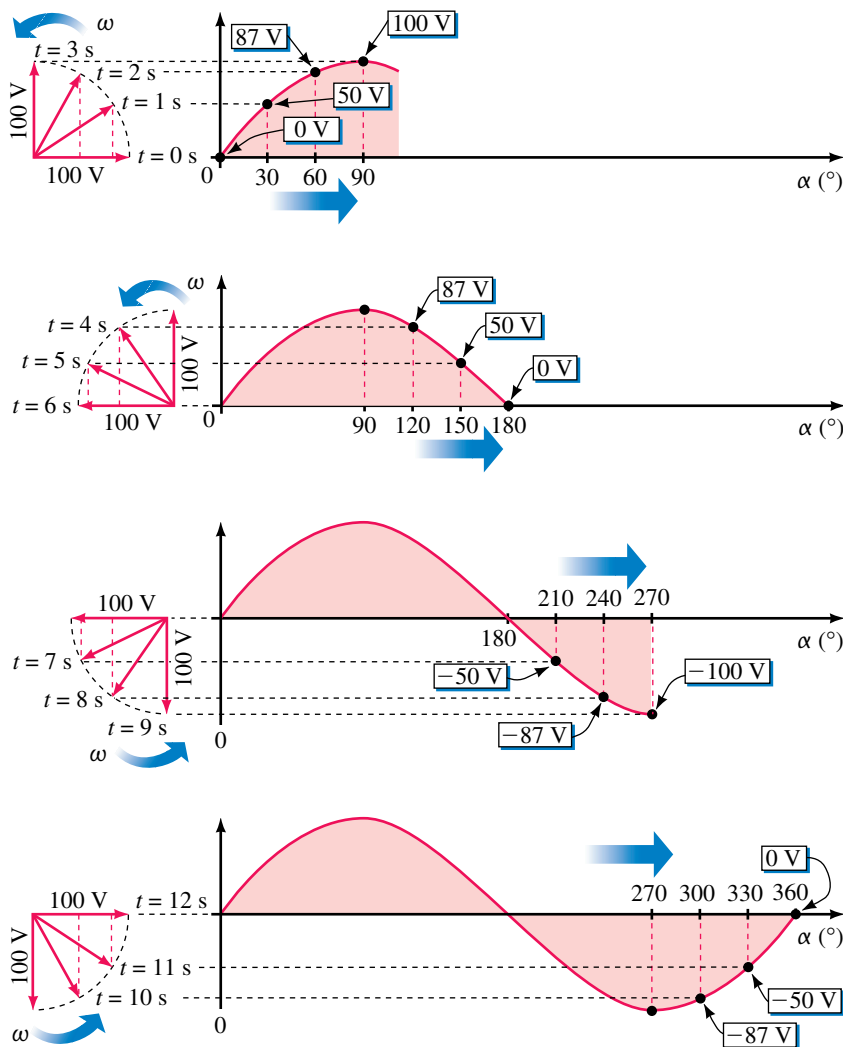

FIGURE 15–35 Evolution of the sine wave of Figure 15–34.
If you plot a graph of v versus α , you get the sine wave of Figure 15–34(b). Figure 15–35 illustrates the process. It shows snapshots of the phasor and the evolving waveform at various instants of time for a phasor of magnitude $V_m = 100$ V rotating at $\omega = 30^\circ/\text{s}$. For example, consider $t = 0, 1, 2$, and 3 s:
1. Although we have indicated phasor rotation in Figure 15–35 by a series of “snapshots,” this is too cumbersome; in practice, we show only the phasor at its $t = 0$ s (reference) position and imply rotation rather than show it explicitly.